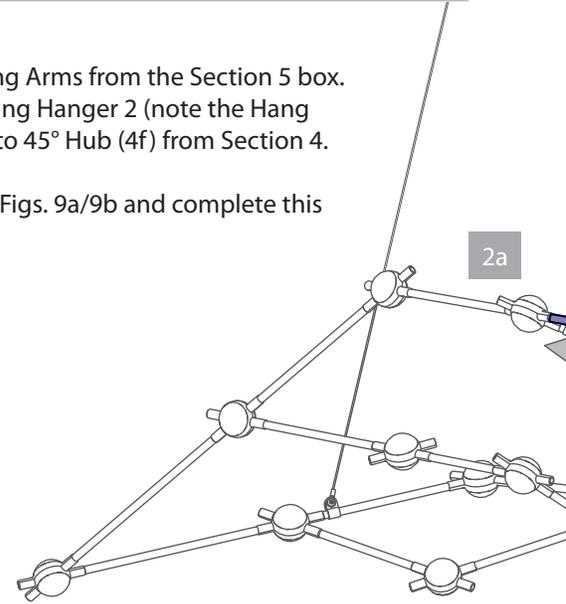

Fig. 9a - Front View
- Start by securing a C13 Arm and 45° Hub (5a) to the remaining Hang Clip from Ceiling Hanger 2 (note the Hang Clip orientation in Figs. 9a/9b) approx. ½" from the Hub, then connect the C4 Arm to 45° Hub (4f) from Section 4. Then connect C12 Arm and 45° Hub (5b) to 45° Hub (2d) from Section 2.
- Continue by connecting Arms and 45° Hubs following the order and pattern in the Figs. 9a/9b and complete this section by connecting the remaining C4 Arm to the 45° Hub (2a) from Section 2.